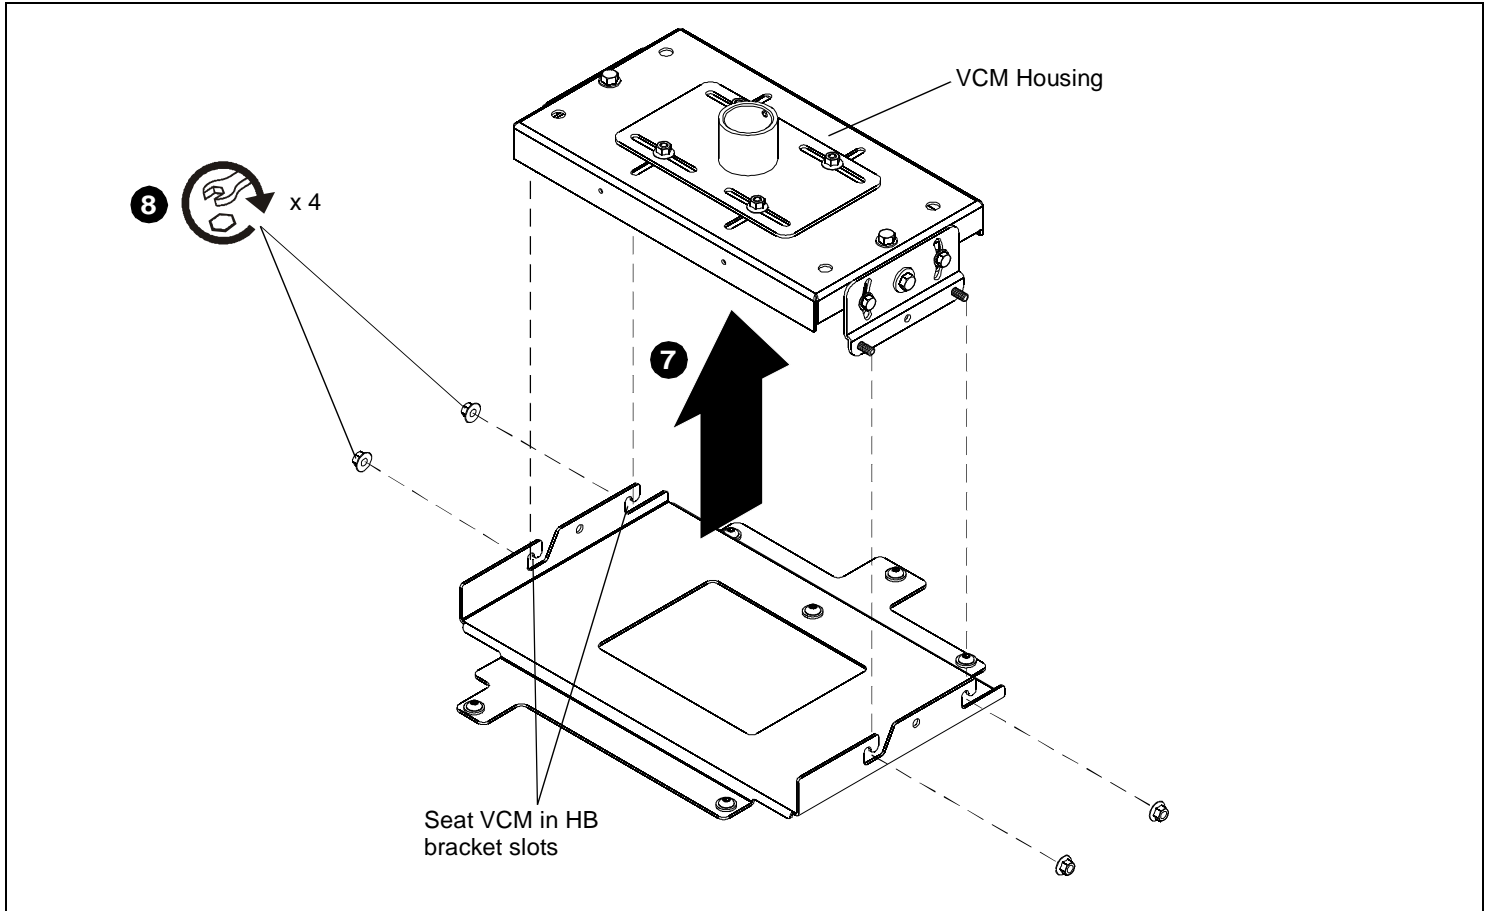

Figure 2:
7. With help of assistants, lift the projector and install it to the four studs extending from the VCM housing. Ensure that the VCM housing is seated in slots on HB bracket. (See Figure 2)
8. Tighten the four 5/16" flange nuts. (See Figure 2)